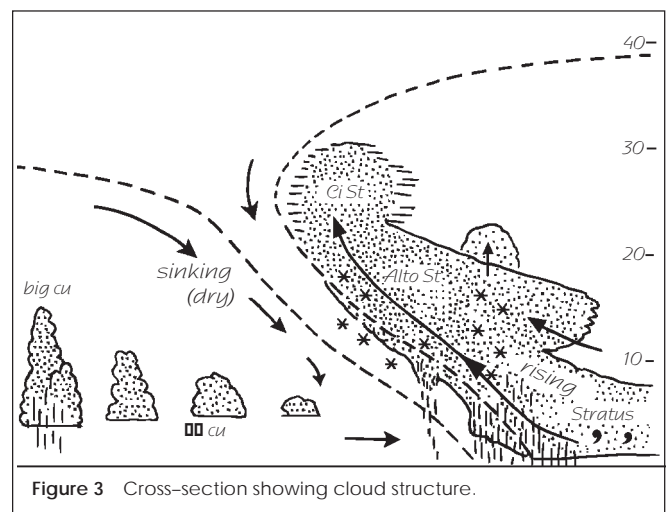

Figure 3 Cross-section showing cloud structure.
**Cloud structure** Figure 3 shows the kind of cloud often produced by the upslope motion over a frontal surface. Ascent cools the air leading to condensation of moisture; this produces cloud and eventually rain (or snow). The slope of the frontal surface may vary between about 1:50 and 1:200 depending on the temperature contrast and the wind structure. This diagram greatly exaggerates the slope.